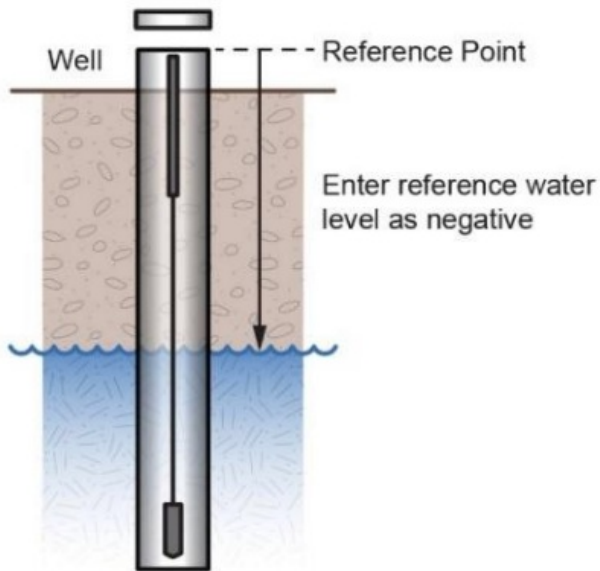

Figure 1: Water level is below reference point
- Note this as a negative number if the water level surface is *below* the reference point, such as groundwater level referenced to the top of the well (**Figure 1**).